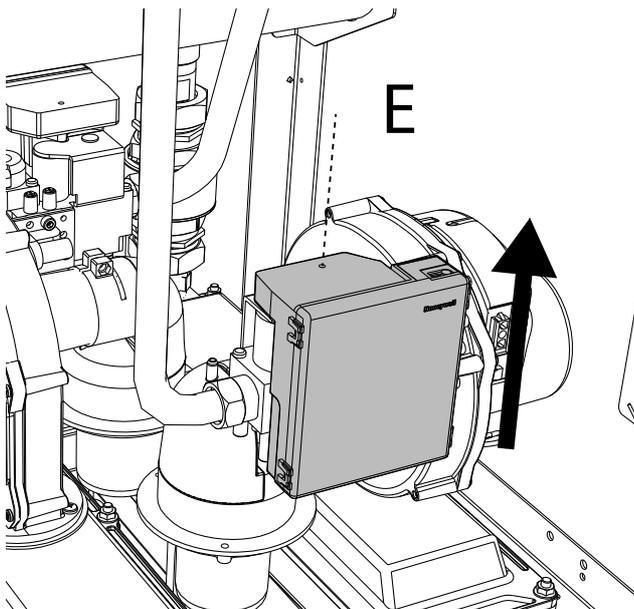

fig. 78
2. Undo the screw "E" and remove the control unit from the gas valve (fig. 78).